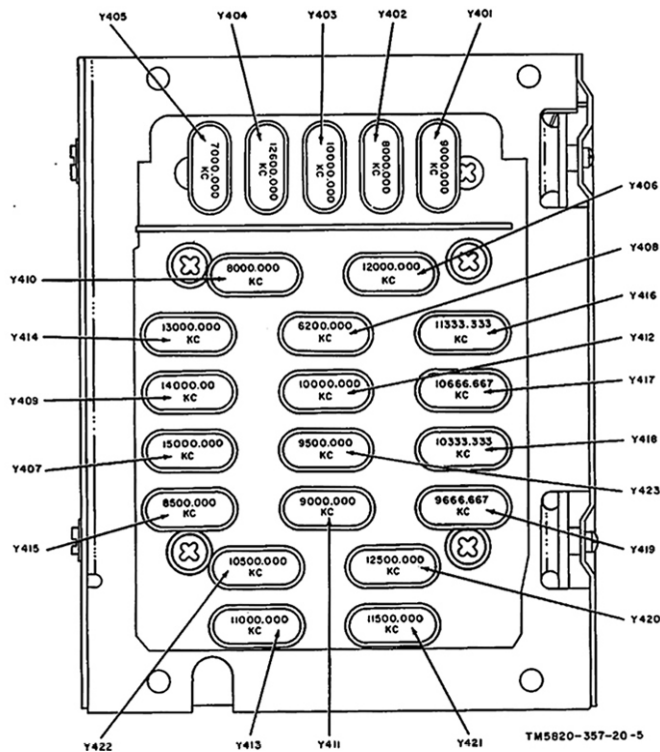

Figure 10. Location of crystals
- (5) If all bands except 00 through 08 operate, change crystal Y201.
- (6) Each crystal in crystal oven HR401 operates a megacycle band or a combination of 1-megacycle bands. To determine which crystal is defective, proceed as follows:
- (c) Match the combination of defective bands with the combinations listed in the chart below. Replace the defective crystal (fig. 10).